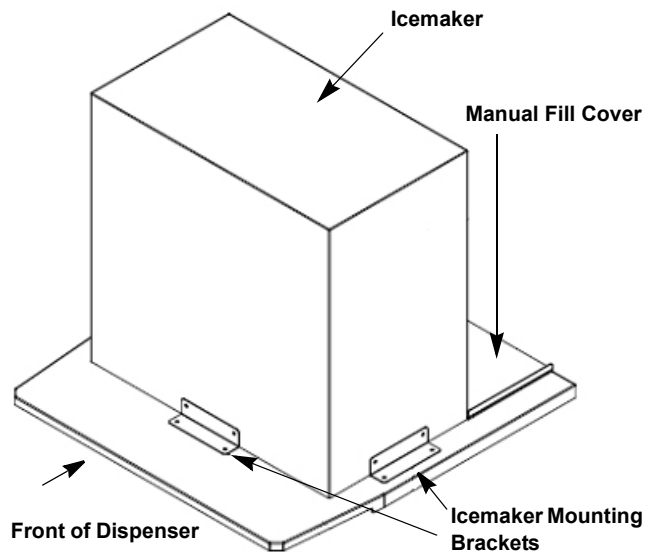

Figure 4
7. Install the icemaker mounting brackets as shown in Figure 4. Using the brackets as a template, drill .136 diameter (#29 drill size) holes into the icemaker cabinet and the adapter lid. Use care not to drill into any icemaker components (condenser, tubing, etc.). Secure the brackets using the #10 sheetmetal screws provided.